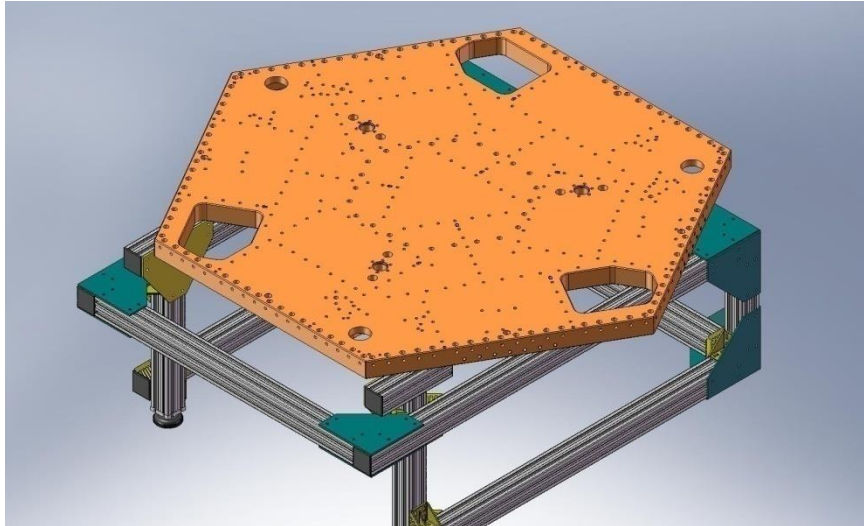
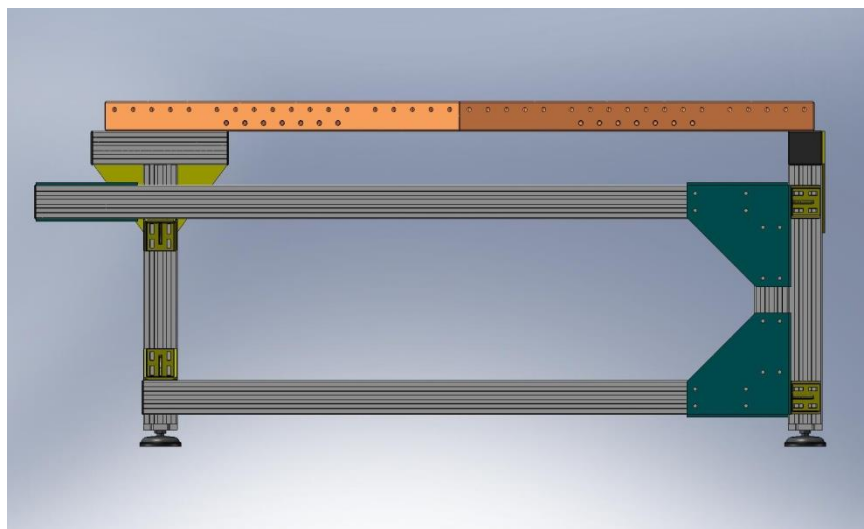

Figure 3.1. Stage 1 Floor resting on the Assembly Stand, for initial stage build-up. This orientation allows good access to the Boxwork mounting screws.
Figure 3.2. Side view of Stage 1 Floor on Assembly Stand.
- Pick up the **Stage 1 Floor** and place it onto the **Assembly Stand**. Orientation should be as shown in Figure 3.1 and Figure 3.2.